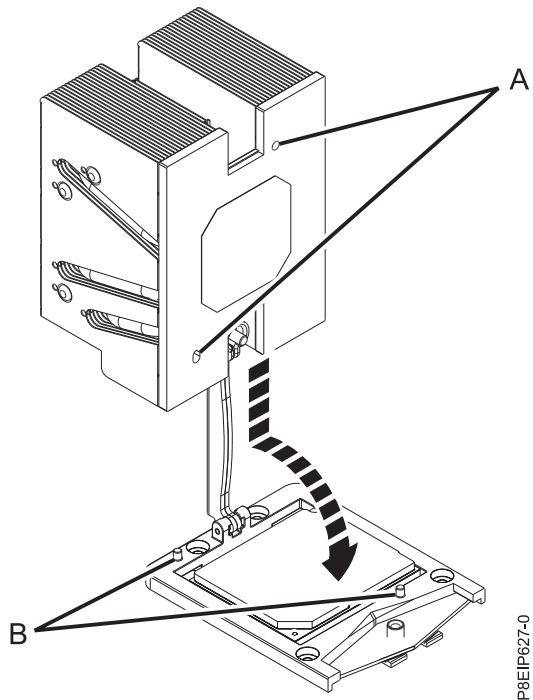

Figure 84. Installing the heat sink
the load arm through the heat sink. Ensure that the holes in the heat sink (A) align with the guide pins (B) on the socket, as shown in Figure 84.